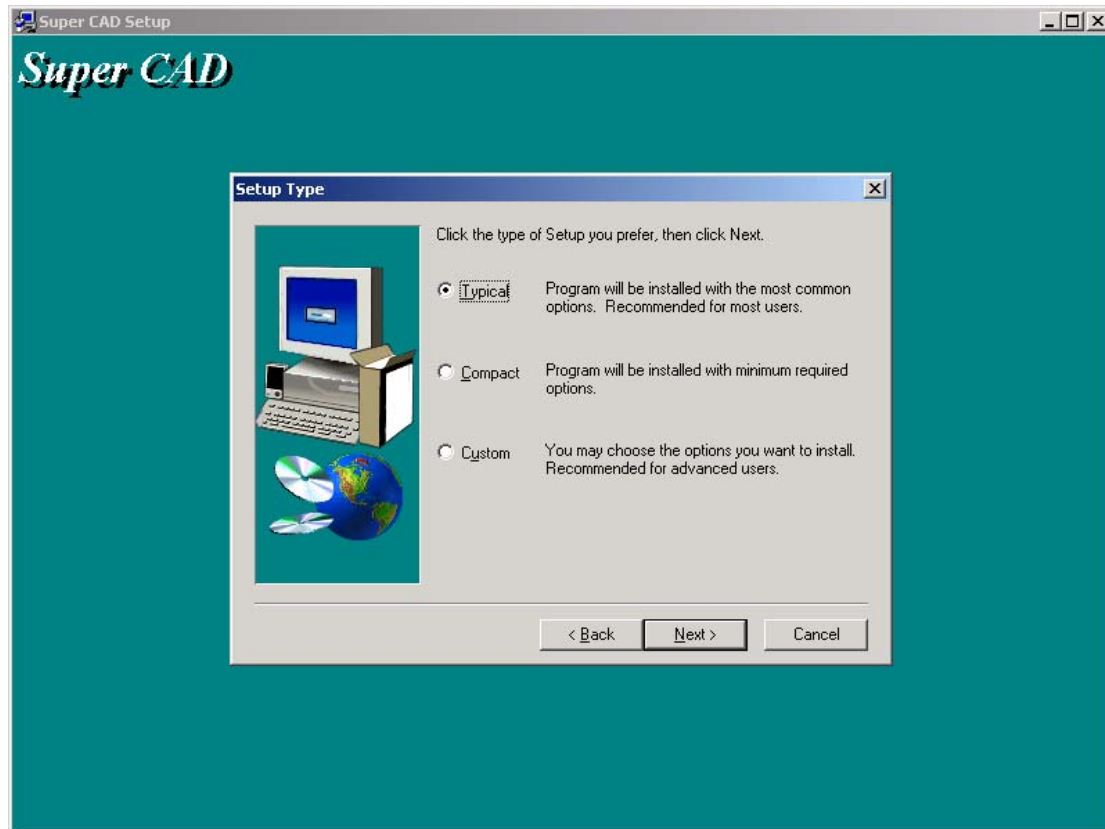

Fig. 1.5 Setup Type Window
5. After setting the destination folder, click [Next] to enter the next step. Setup Type Window as shown in Fig. 1.5 will be displayed. Please select your desired installation type.